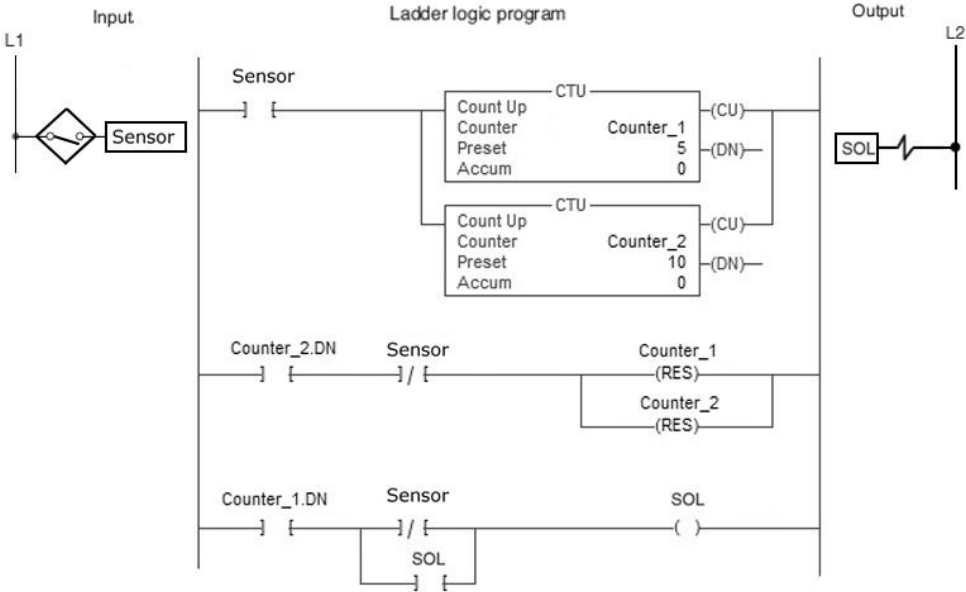

Figure 8-22 Up-counter program for assignment 20.
20) The PLC program shown in Figure 8-22 is an example of a bottling operation where 5 out of every 10 bottles are removed as they pass by on a conveyor. The operation of the program can be summarized as follows: